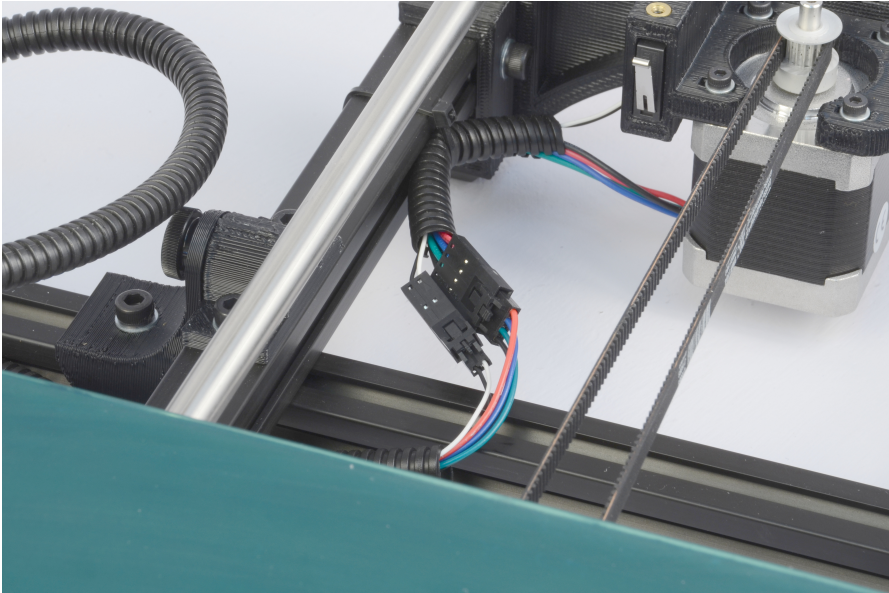

Figure 1.5: Connect the two connectors found at the rear of the Y axis
4. The final step of installing the Y axis is connecting the print surface connectors and Y axis connectors. Pull the print bed completely to the front of the printer to get access to the Y axis connectors. You will find matching male and female 4 pin stepper motor connectors and two pin end stop connectors. Connect the matching male and female connectors (Fig. 1.5, page 17); make sure the connector lock clicks to be sure that the connection is secure.